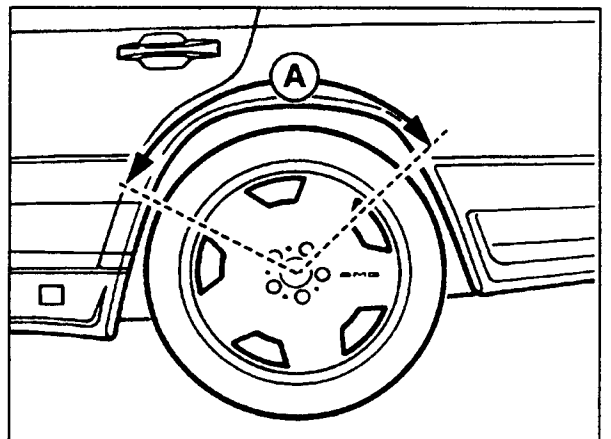

Figure 9
13. The inside edge of the rear fenders must be rebent to an angle of 110° over the complete wheel cutout (A, Figure 9) to accommodate the wider wheels and tires.
16. The fender lip is reworked over the entire area (A, Figure 9) in several stages. A plastic hammer must be used to avoid damaging the paint.